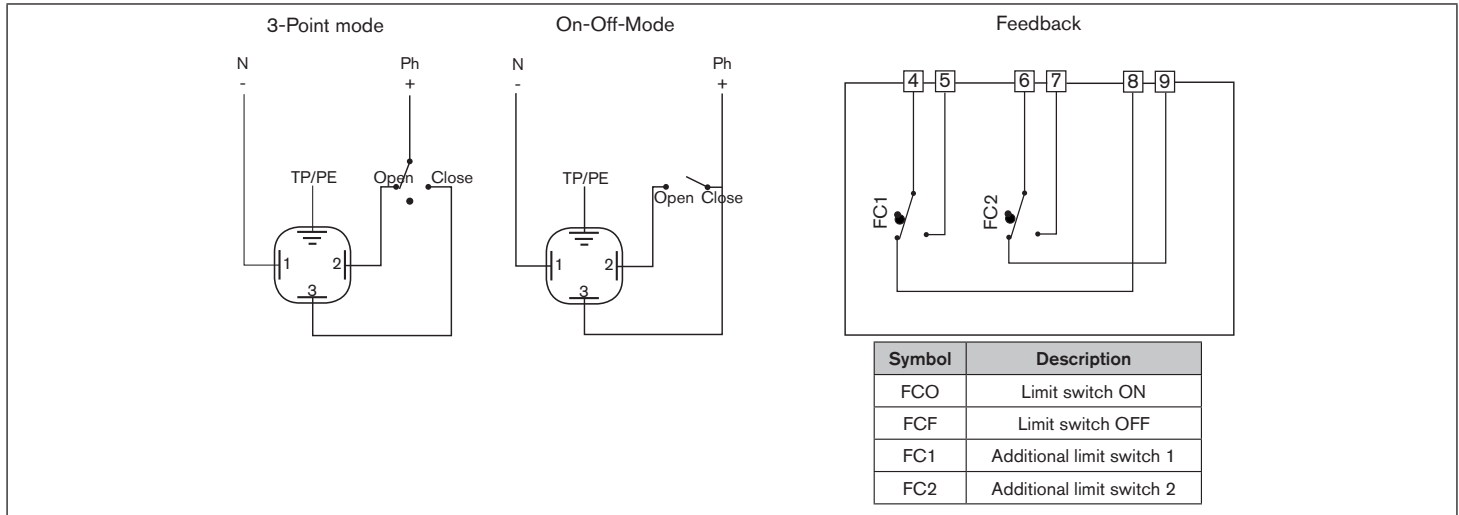
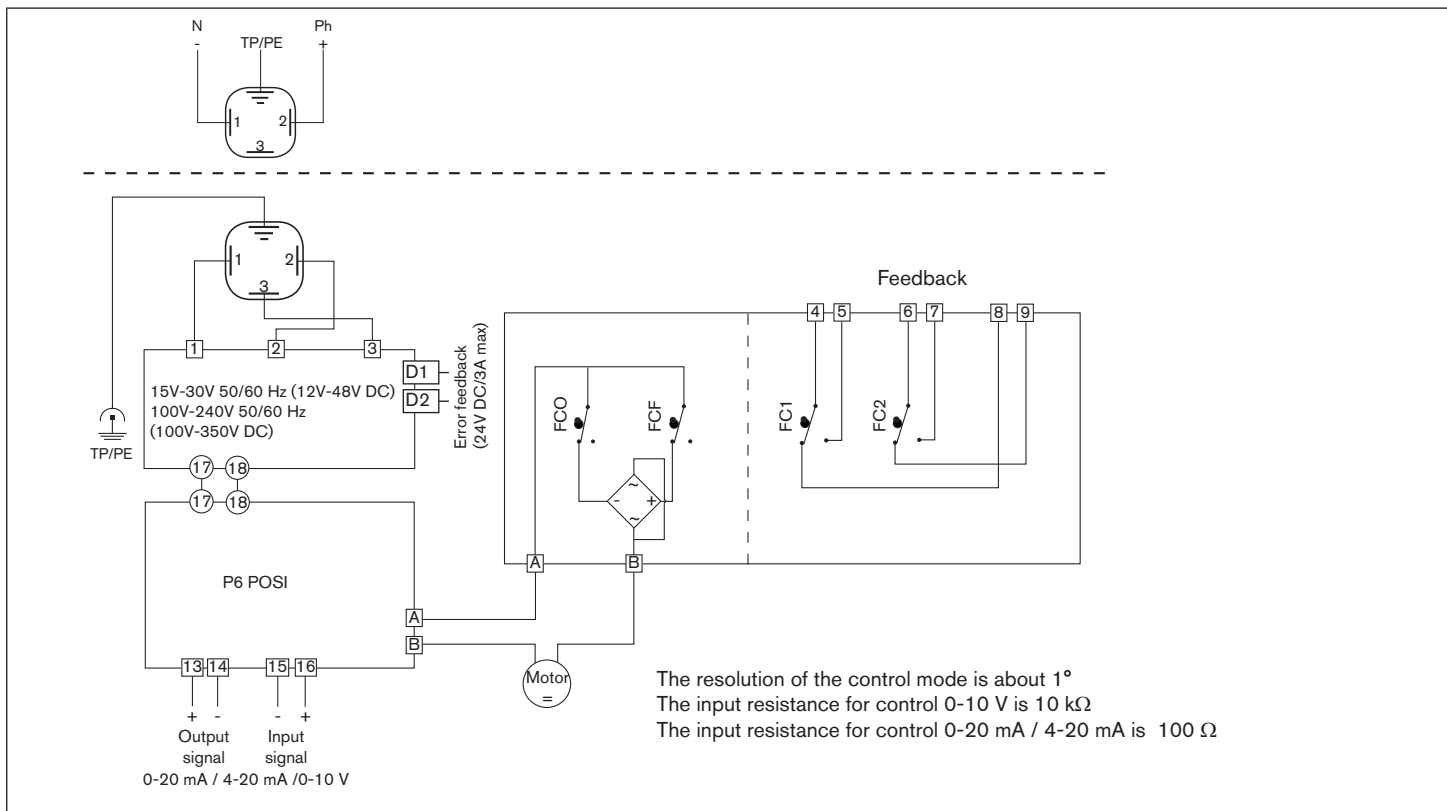

Fig. 2: Open/Closed Version
Fig. 3: Version with analog input signal
- Wire the connections of the additional limit switches (FC1 and FC2) according to the circuit diagram figures (see “Fig. 2” and “Fig. 3”).